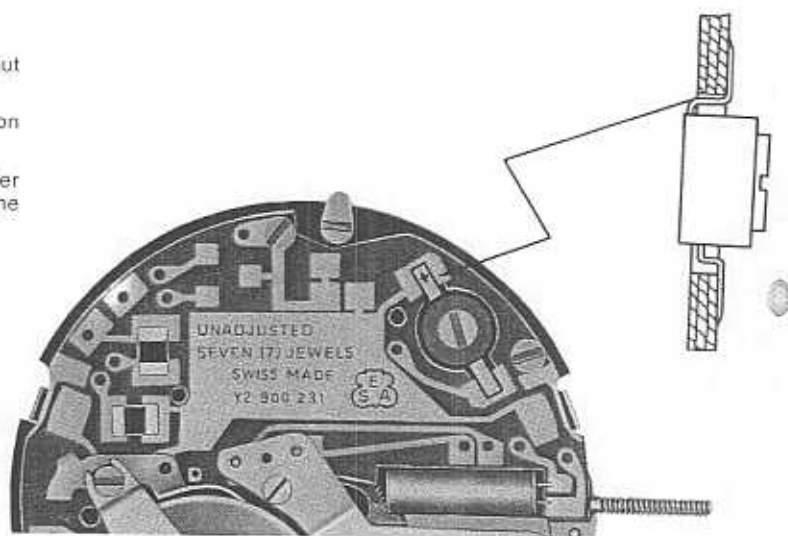

Fig. 3
- Fit the new frequency-corrector in position and solder the lugs (the + lug on the side further away from the resonator, see fig. 3).